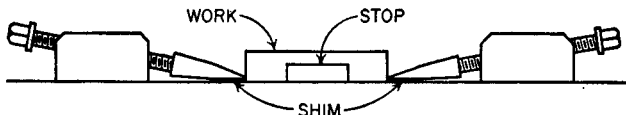

Fig. 2-20. Holding thin work with toe dogs. (The Cincinnati Shaper Company)
*Toe Dogs* (Fig. 2-20). Toe dogs also are used to hold thin pieces in place. These dogs are held on the table and, with the help of two adjusting screws, the thin work is held in place.